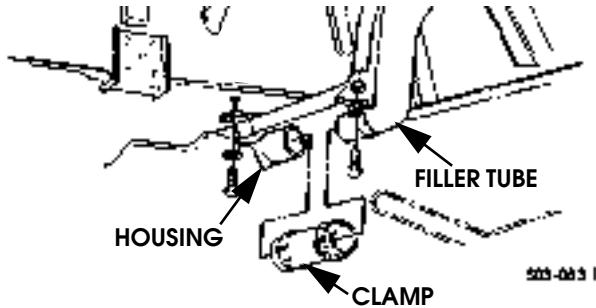

Figure 3-32: Filler Tube-to-Tank Attachment
6. Loosen clamps securing connecting hose to filler tube and housing (Figure 3-32).